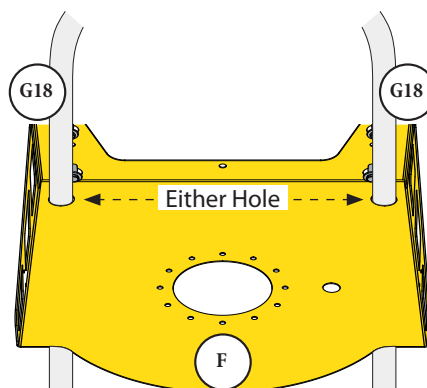

FIG. 23
Take the Tubing Assembly (G18) and route it through the closest retaining hole located in the back corner of the Wall Bracket (F) [FIG. 23].